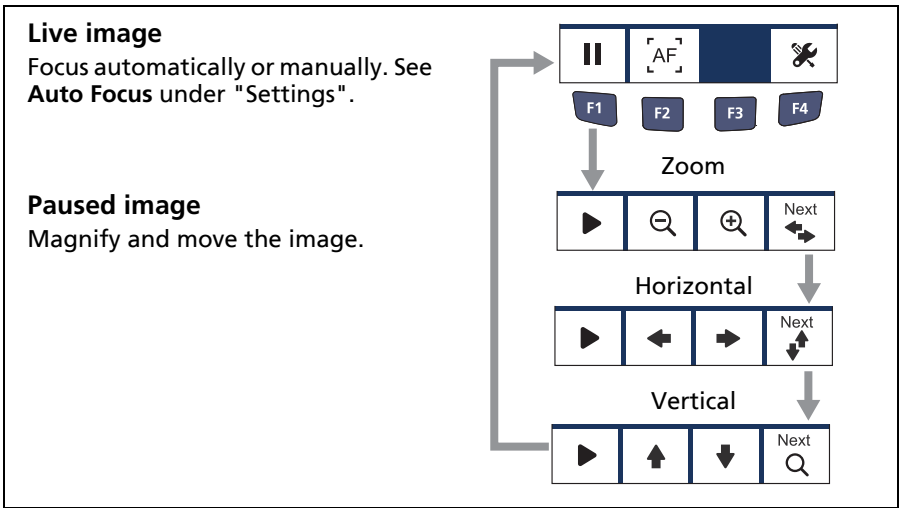

Figure 2. Image Controls
<p>④</p>	   <p>Switch the probe between live and paused modes. Figure 2 shows the button functions in paused mode.</p>